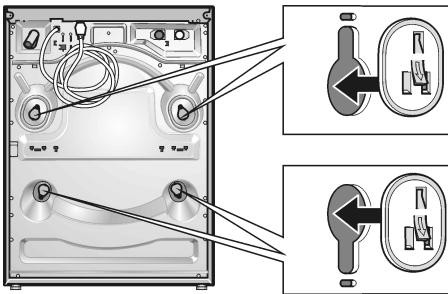

Figure 15
- ❑ Insert the covers until they snap in completely (see **Figure 15**).